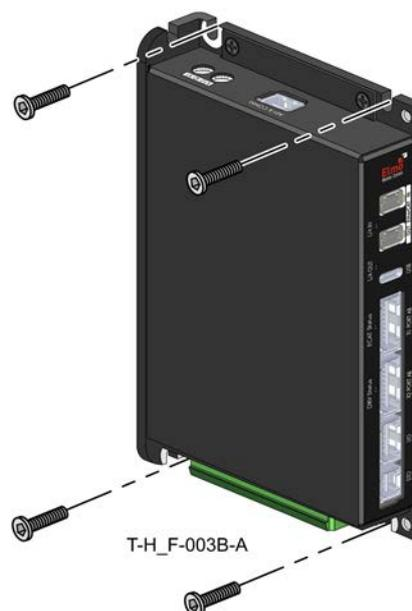

Figure 3: Bottom-side wall-mounting Titanium Harmonica
- For Bottom-side wall-mount: Mount the Titanium Harmonica with four M4 screws, see Figure 3.